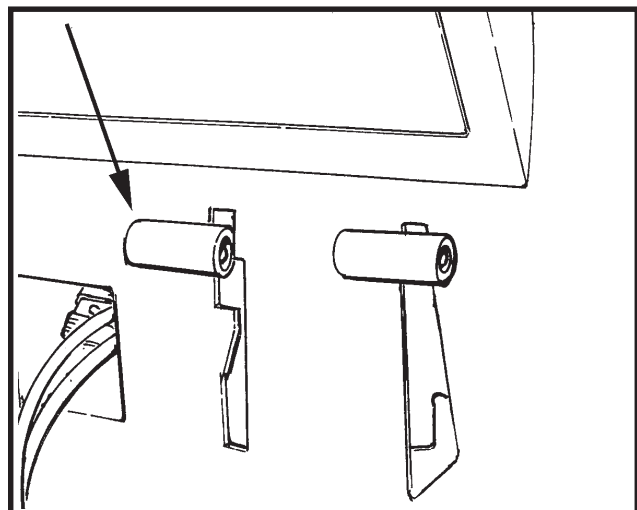

Figure 17
2. To raise the squeegee, lift the squeegee lever up. See figure 17.